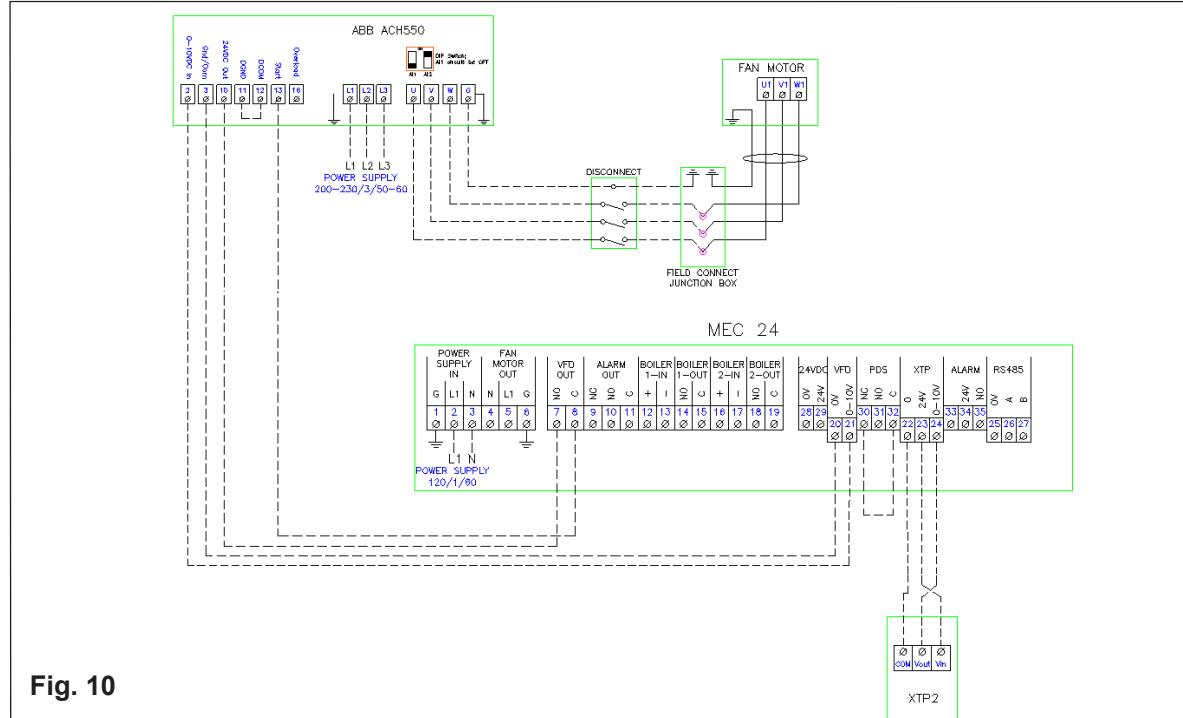

Fig. 10
- ▶ If using a 3-phase fan and VFD, connect the VFD to terminals 20 and 21 as shown in Fig. 10 and 11.
- ▶ If using a 3-phase fan and VFD, connect the VFD to terminals 20 and 21 as shown in Fig. 10 and 11. **DO NOT** connect the fan directly to the MEC24 control.
Wire the ABB ACS355 series variable frequency drive according to fig. 10.